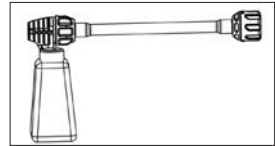

Fig.13
- When using detergent, attach the High Pressure Foam Sprayer (Fig.13) directly onto the end of the extension lance until it "clicks" and turn to lock in place